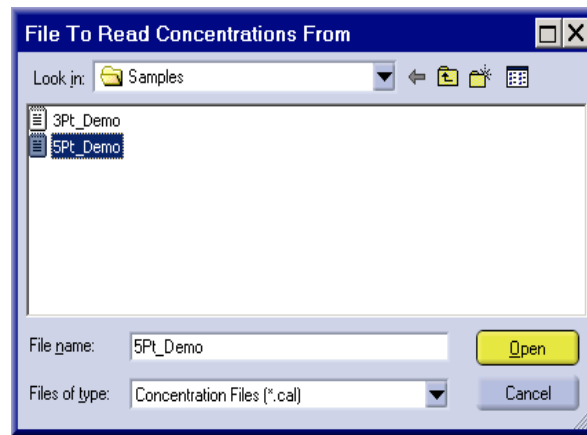

Figure 2-4 *File to Read Concentrations From Window*
2. The *File to Read Concentrations From* window opens, displaying a list of available CAL files (Figure 2-4). Go to the Samples directory and select the example .CAL file for this exercise, **5Pt\_Demo**.